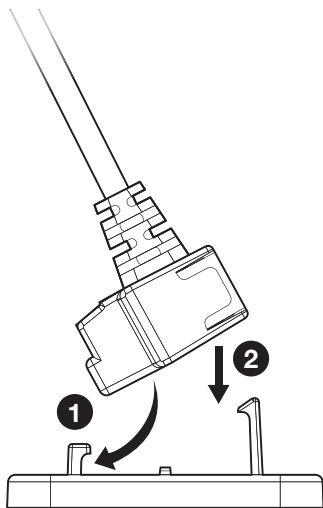

Figure 11. Attaching TLCA 1 to the Mounting Clip
Insert the TLCA 1 into the mounting clip at an angle, captive-screw side first (see figure 11, ①), then the back side (②).